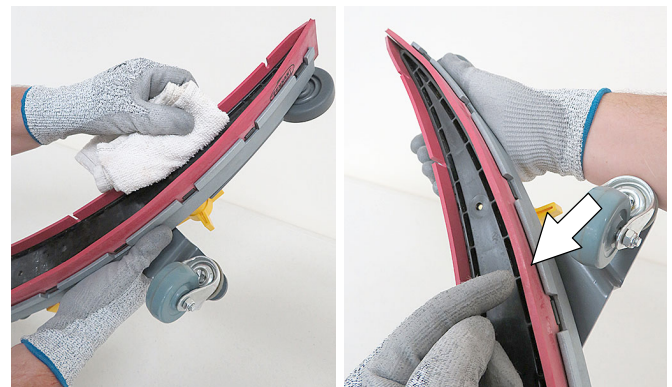

FIG. 109
7. Wipe the squeegee blades clean. Inspect blades for wear and damage (Figure 109). Rotate blade if worn. See SQUEEGEE BLADE REPLACEMENT.